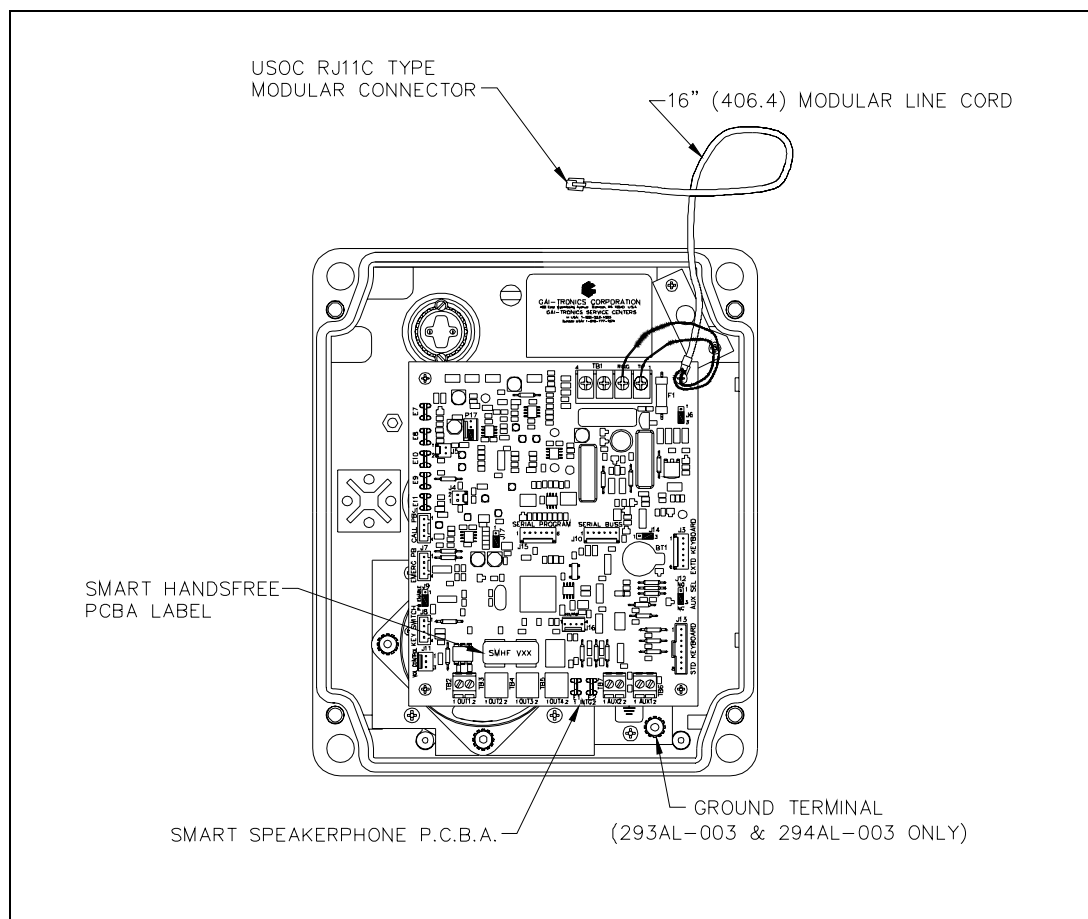

Figure 1. PCBA Connections for Model 293-003, 293AL-003, and 294AL-003
1. Align the holes in the four corners of the new PCBA with the standoffs in the telephone, maintaining proper orientation. See Figure 1.